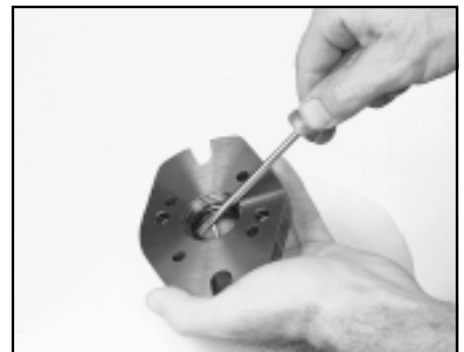

Figure D15
14. Remove dust seal (20) by leveraging it outward.
15. To remove the high pressure lip seal, the roller bearing must first be removed. Use a suitable bearing puller while taking care not to damage the flange. Once the bearing is removed, the seal can be pushed out of the flange using a blunt instrument. SEE FIGURE D15.